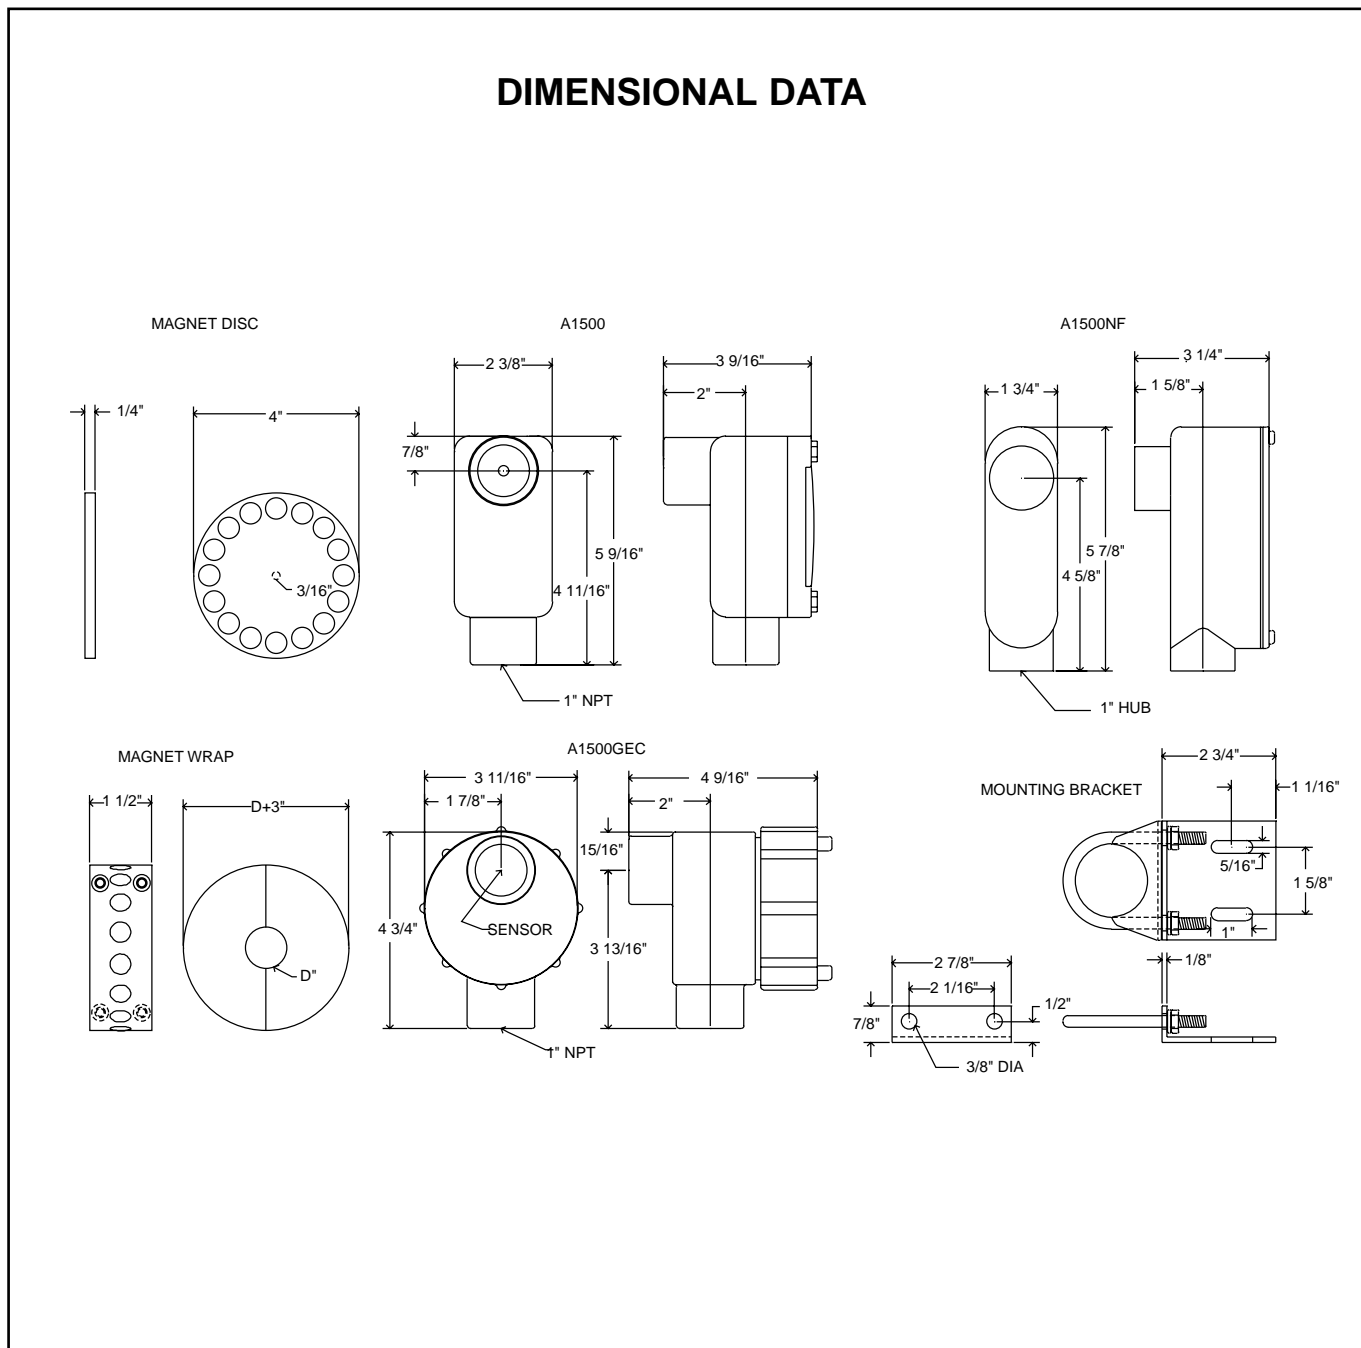

Figure 2
4.1 The A1500GEC switch enclosure is UL/CSA listed and certified for Class I, Div. 1 & 2, Group D, Class II Div. 1 & 2, Group E, F, & G, Class III. (see figure 2, page 4).